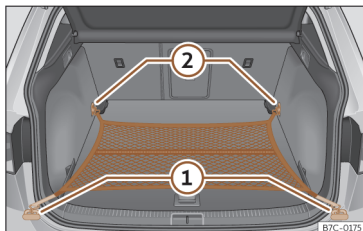

Fig. 112 In the luggage compartment: net bag hooked up at floor level.
- Secure the net hooks to the fastening rings ① and ② >>> Fig. 112 >>> ⚠. The bag zip should be facing upwards.